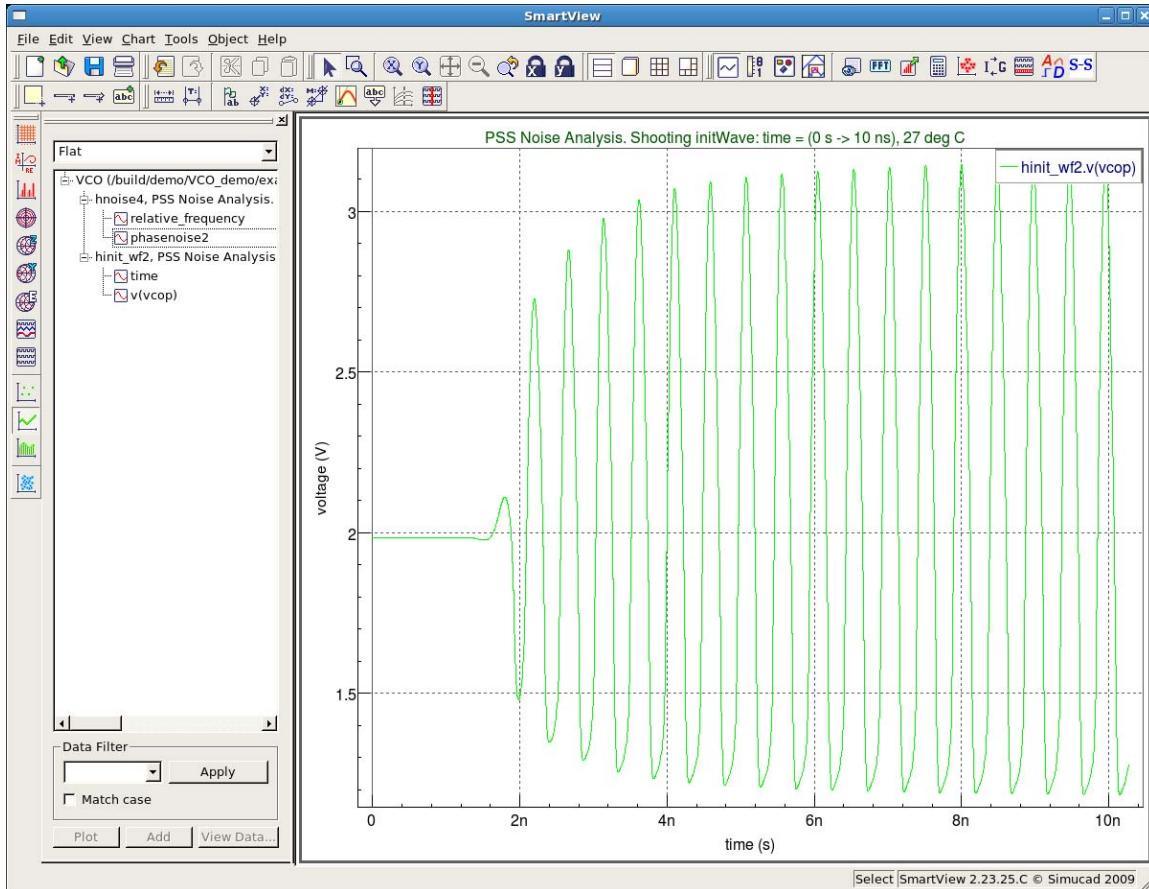

Figure 10: V(vcop) Waveform for Tuning Voltage of 1.5 V
3.3: Remember we've added the “saveinit” flag into .HNOISE statement to save results of Initial Transient analysis of the Shooting method? OK so let's see what the start-up behavior of the oscillator looks like. In Data Browser Panel, select “hinit_wf2”plot, then select vector “V(vcop)” and click **Plot**. Figure 10 shows waveform at the oscillator node vcop for tuning voltage of 1.5V.